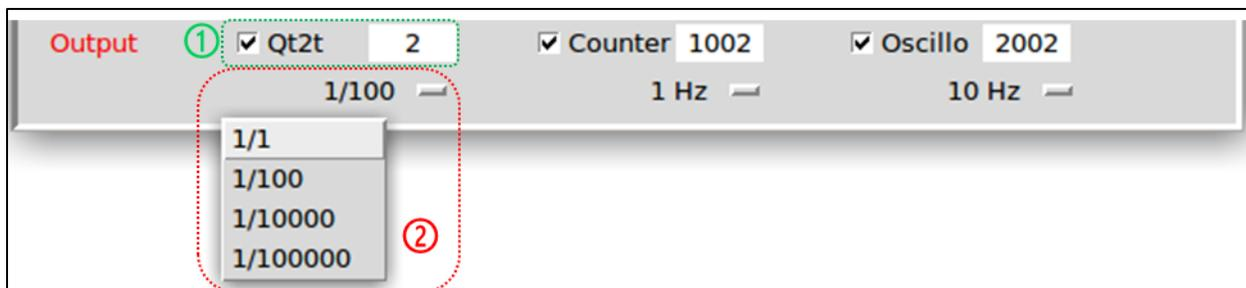

Figure 26: decimation of QT2T data
The experimenter can store or display all "QT2T" data processed by the QT2T module by enabling data output (cf. Figure 26 ①) and selecting 1/1 (cf. Figure 26 ②). But, when the event rate is too high and saturates the FASTER acquisition, the user can choose to store a percentage of this rate: one event data every 100 event data is sent, or every  $10^4$  event data, or one event data every  $10^5$  event data. With this decimation parameter, the acquisition efficiency can be controlled.
- **myChannel\_CALC**: depends on the decimation parameter (cf. Figure 26).
If QT2T data decimation is 1/1 (Figure 26), the dead time of the “QT2T” data is equal to